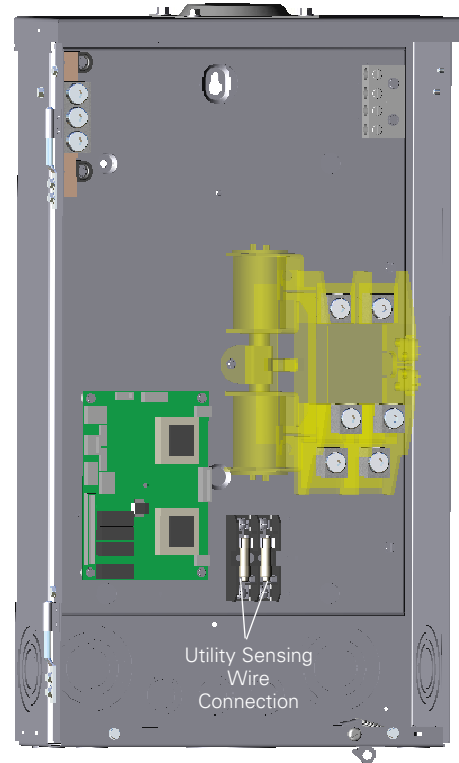

Figure 12. Generator Utility Sensing Wires Connection.
- Step 2: If your generator requires utility power for engine start sensing then the generator utility sensing connections are located on the fuse block that is installed at the bottom of the power panel (see Figure 12). The utility sensing wires, required for proper generator operations, are connected at this point. See Section 4.7 for more detailed information on connecting the generator utility sensing wires.
This ATS is intended for use on generators with built in auto start features. These generators sense, and react to, utility power (see Figure 12). This ATS may also be used with generators that require open type remote starting contacts. One set of normally open contacts and one set of normally closed contacts are supplied